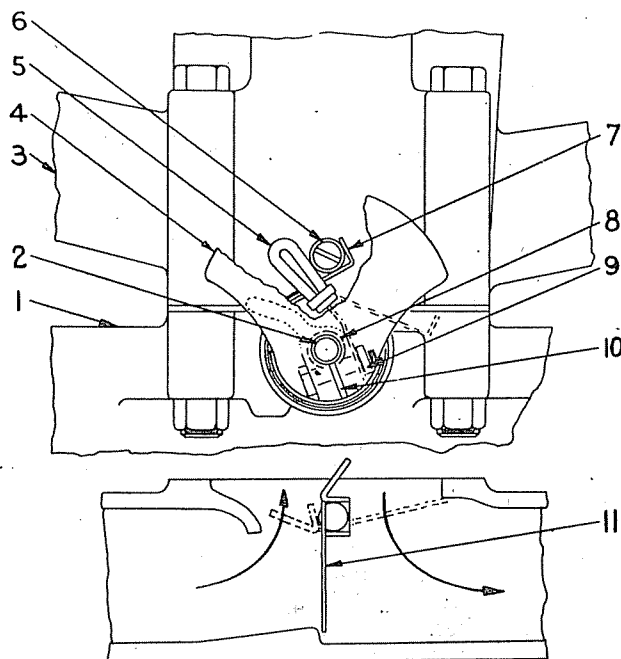

Fig. 3—Diagram Showing Thermostat Wrap.
The exhaust manifold is equipped with a thermostatically controlled heater valve (Figure 3) which regulates the amount of heat by-passed around the inlet manifold heater body. With the heat control valve in the closed position, the hot gases passing from the exhaust manifold strike the valve and are deflected around the inlet manifold.
The thermostat holds the valve plate (11) Figure 3, closed under tension, but this tension is not enough to prevent the valve from opening when the engine is speeded up, therefore, excessive back pressure will not develop in the manifold. As the thermostat becomes heated, the valve gradually moves to the open position as indicated by the dotted lines in Figure 3, and when normal operating temperature is reached, the exhaust gases have an unrestricted passage from the engine through the exhaust manifold.